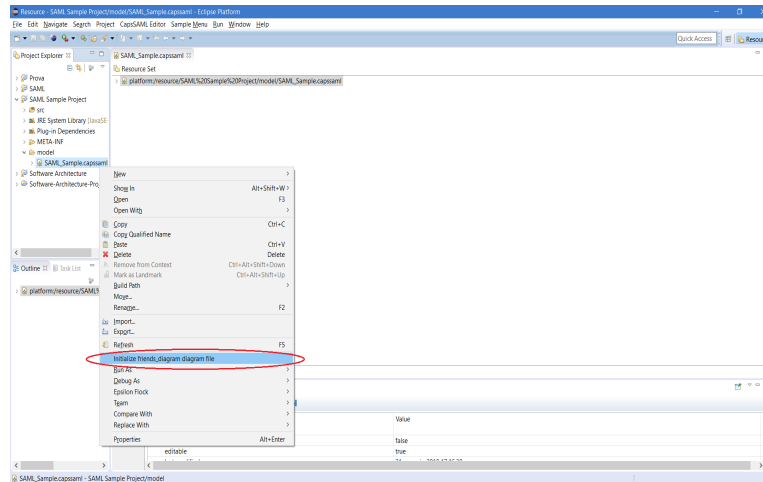

Figure 2.7: Initialize the diagram
- From the project explorer on the left, right click on the new file that have been created and select **Initialize friends_diagram diagram file**. This will let you to create the SAML diagrams (figure 2.7);